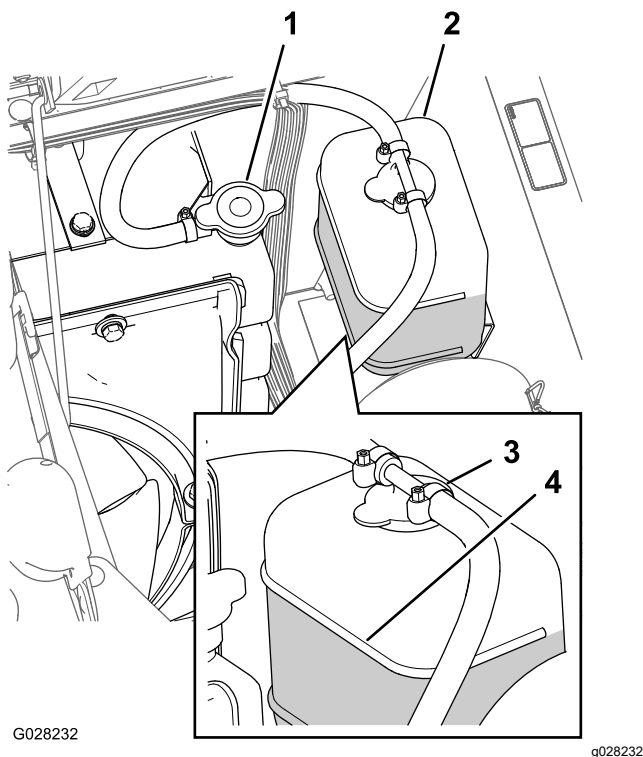

Figure 91
3. Carefully remove the radiator cap and the expansion-tank cap (Figure 91).
Note: The radiator should be filled to the top of the filler neck and the expansion tank filled to the Full mark on the tank (Figure 91).
5. If the coolant level is low, remove the expansion-tank cap and the radiator cap, and fill the expansion tank to the Full mark and the radiator to the top of the filler neck (Figure 91).
6. Install the radiator cap and the expansion-tank cap (Figure 91).
2. Wait until the engine is cool, then remove the radiator cap (Figure 91).
6. Remove the radiator cap (Figure 91).
8. Start the engine with the cap loose on the radiator (Figure 91).
10. Once the coolant has warmed up, top off the coolant level to the sealing surface of the cap and tighten the cap (Figure 91).
11. Open the expansion-tank cap and fill the tank with coolant to the Cold level (Figure 91).